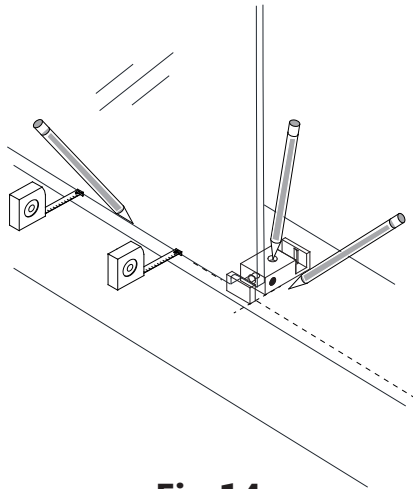

Fig 14a
14. Make sure the **Stationary Glass (#02)** is parallel to the front edge of the threshold. Level it vertically (plumb) and mark the position on the threshold. Slide the **Guide Block (#12)** into the notch in the **Stationary Glass (#02)**, and align it flush with the edge. Mark its position and also mark the hole for drilling using a pencil (or center punch). **(Fig 14a)**